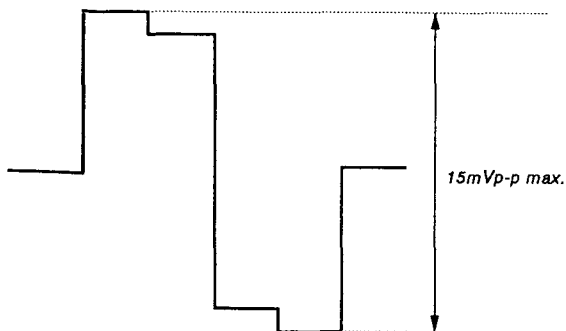

Fig. 8
5. Adjust **SUB PHASE** to minimize the output waveform (15 mVp-p max.) (Fig. 8)